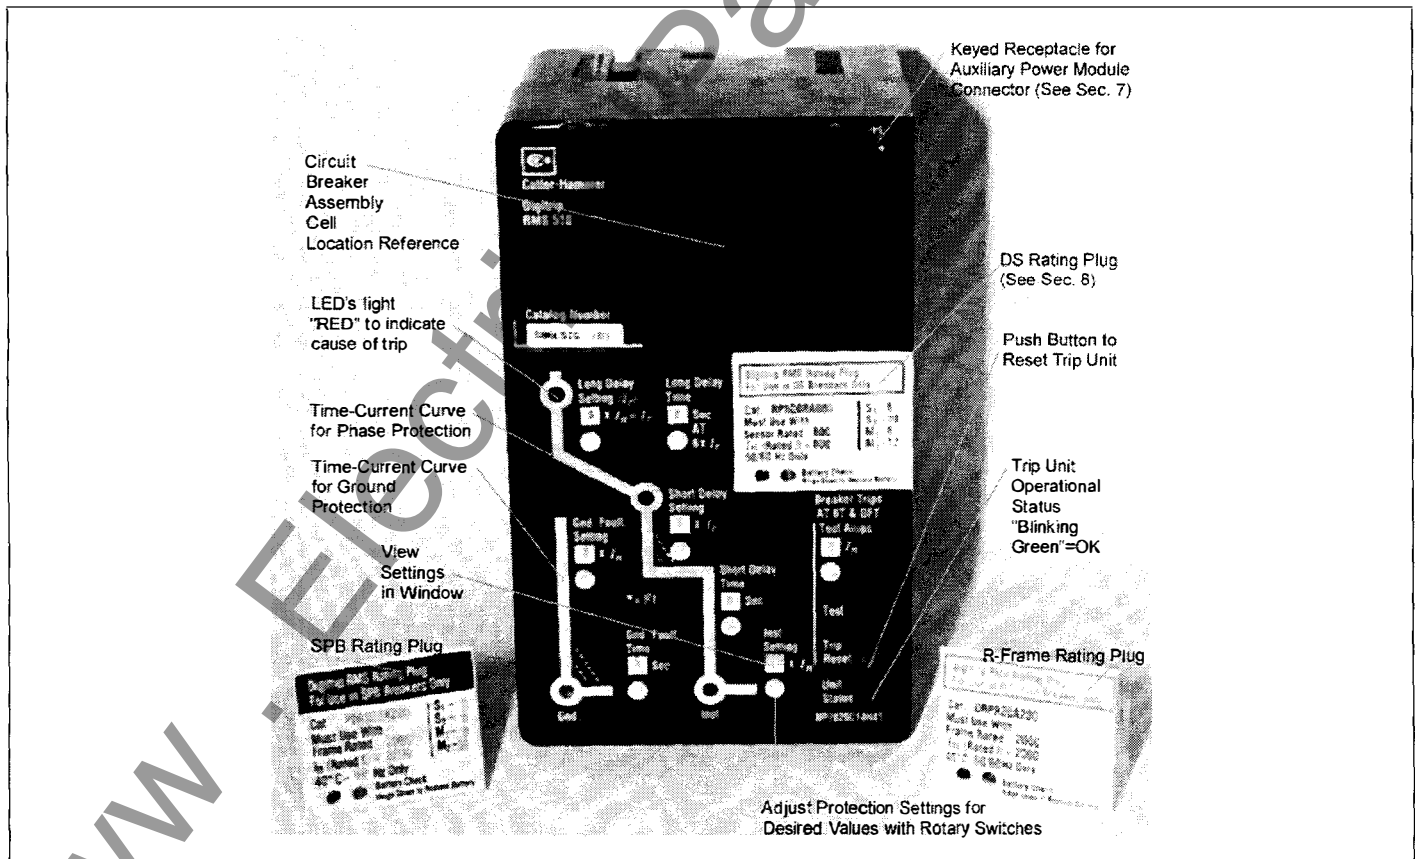
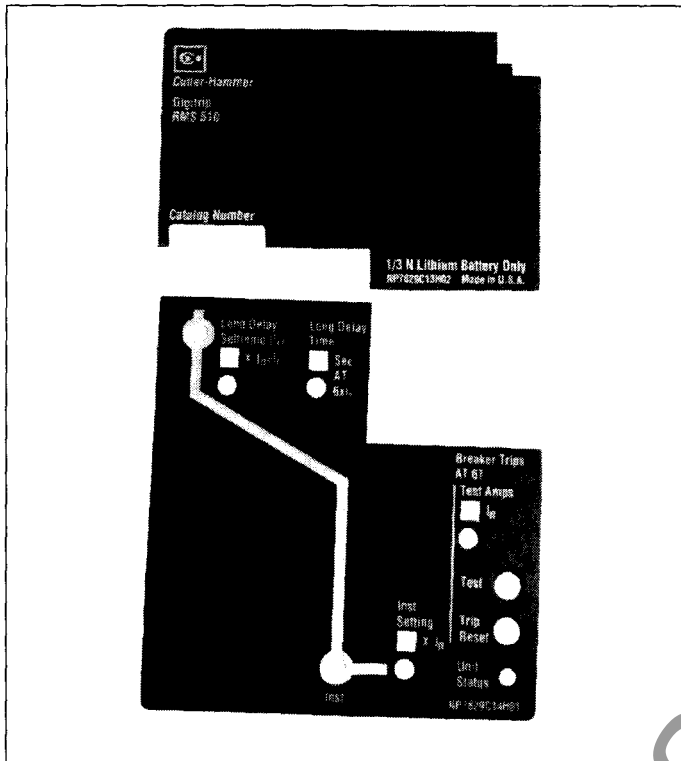
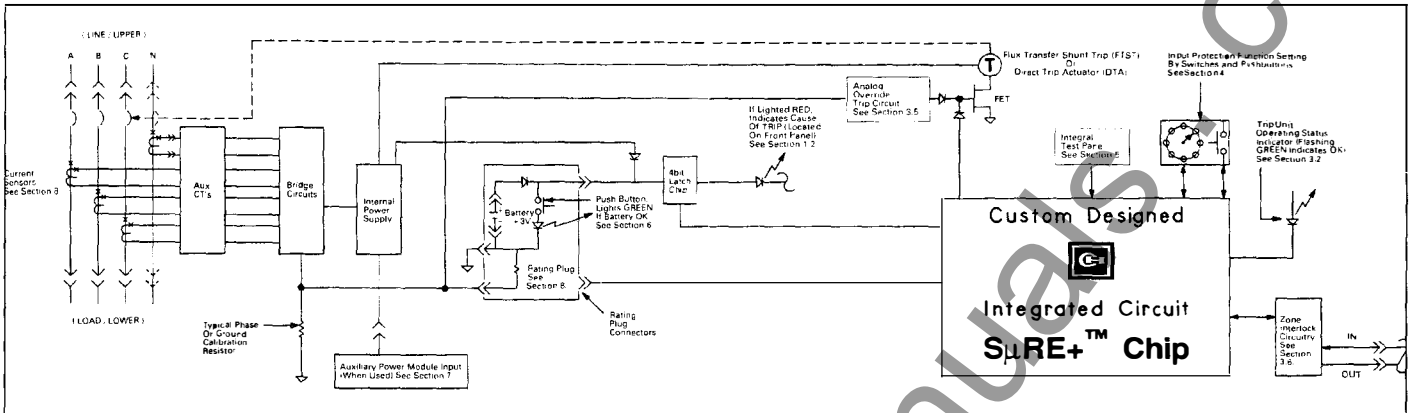
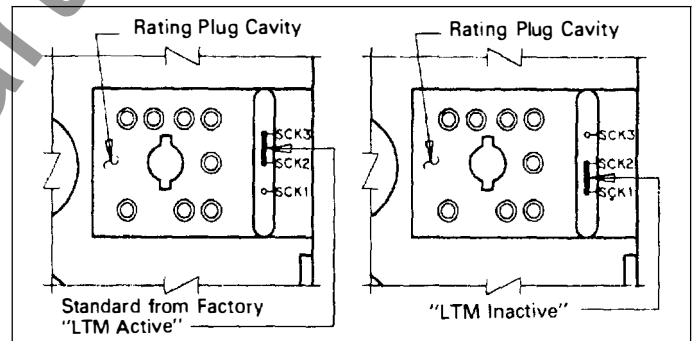

Fig. 1 Digitrip RMS 510 Trip Unit Model LSIG with Rating Plug
Fig. 2.1 Long Time/Instantaneous Protection (LI)
Fig. 3 Digitrip RMS 510 Block Diagram with Breaker Interface
Fig. 4.2.1 Long Time Memory "LTM" Jumper
The Digitrip RMS 510, illustrated in Fig. 1, is a custom application specific integrated circuit based trip unit suitable for use in types DS and DSL low voltage AC power circuit breakers and type SPB Systems Pow-R circuit breakers and Series C[®] R-Frame molded case circuit breakers.
The Digitrip RMS 510 Trip Unit is available in six different types. Each trip unit may be equipped with a maximum of five phase and two ground (time-current) adjustments to meet specific application requirements. The types of protection available for each model include the following, which are illustrated in Figures 2.1 through 2.6:
The Digitrip RMS 510 Trip unit provides three basic functions: Protection, Information and Testing. A typical trip unit and rating plug are illustrated in Fig. 1. Individual product instruction leaflets referenced in Section 9.0 illustrate typical Digitrip RMS Trip Units installed in specific breakers.
The trip unit employs the Cutler-Hammer Inc. custom designed integrated circuit S μ RE + chip, which includes a microcomputer to perform its numeric and logic functions. The principle of operation is described by the block diagram shown in Fig. 3.
The LEDs, shown in Figs. 1 and 2.1-2.6, on the face of the trip unit, light “RED” to indicate the reason for any automatic trip operation. As indicated in Figs. 2.1-2.6, each LED is strategically located in the related segment of the time-current curve depicted on the face of the trip unit. The reason for trip is identified by the segment of the time-current curve where the LED is lighted “RED”. Following an automatic trip operation, the back-up battery, continues to supply power to the LEDs as indicated in Figs. 3 and 6. To check the status of the battery, see Section 6.
Push the “Trip Reset” button shown in Fig. 1, to turn “Off” the LEDs following a trip operation.
A green colored LED, as shown in Fig. 1, indicates the operational status of the trip unit. Once the load current through the circuit breaker exceeds approximately 10% of the frame/current sensor rating, the green LED will flash “On” and “Off” once each second, to indicate the trip unit is energized and operating properly.
Zone Selective Interlocking (or Zone Interlocking) is available (see Fig. 3) for Digitrip RMS Trip Units having Short Delay and/or Ground Fault protection. Zone Selective Interlocking provides the fastest possible tripping for faults within the breaker’s zone of protection, and yet also provides positive coordination among all breakers in the system (mains, ties, feeders and downstream breakers) to limit the outage to the affected part of the system only. When Zone Interlocking is enabled, a fault within the breaker’s zone of protection will cause the RMS DIG-ITRIP trip unit to:
Prior to placing circuit breaker in operation, each trip unit protection setting must be set to the values specified by the engineer responsible for the installation. The number of settings that must be made is determined by the protector model supplied as illustrated in Figs. 2.1 through 2.6. Each setting is made with a rotary switch, using a small screwdriver. The selected setting for each adjustment appears in its respective rectangular viewing window as illustrated in Fig. 1.
In certain applications it may be desirable to disable the LTM function. The LTM function can be disabled by (first opening the breaker and then) removing the Rating Plug (See Figures 1 and 6), and lastly moving the LTM jumper (inside the rating plug cavity, See figure 4.2.1) to its "INACTIVE" connection. (You can enable the LTM function again any time you wish by moving the LTM jumper back to its original "ACTIVE" connection.)
- 2) There is a condition under which the Long Delay Trip LED can erroneously indicate a LDT has occurred, even though the breaker is still closed. This can happen when an overload current momentarily exceeds the Long Delay Current Setting, I_r , so that the Long Delay LED flashes "RED" to indicate the overload condition. Then if, at the very moment when the LED is "ON", the load current would then suddenly drop to a value less than 10% of the breaker frame (or current sensor) rating, the trip unit stops functioning while the "4bit Latch Chip" (See Fig. 3) is set and the LED remains Lighted. If the current would again increase to a value above the Long Delay Current Setting, I_r , and then return to normal, the
LDT will reset itself. You can of course, manually clear the LDT (or any other trip indication) at any time, by pushing the “PUSH to RESET” button. (See Figure 1.)